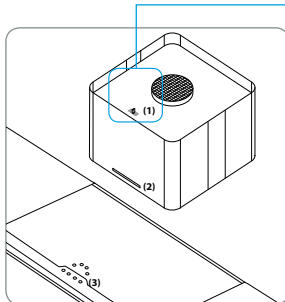

Abb. 1 Inset in Standardausführung mit Stick (1) und Bedienfeld (2)
Fig. 1 Extractor in standard design with Stick (1) and control panel (2) The hood is controlled via the master switch on the cooking plate (3) or the control panel of the hood. The color temperature is 4.000 K.